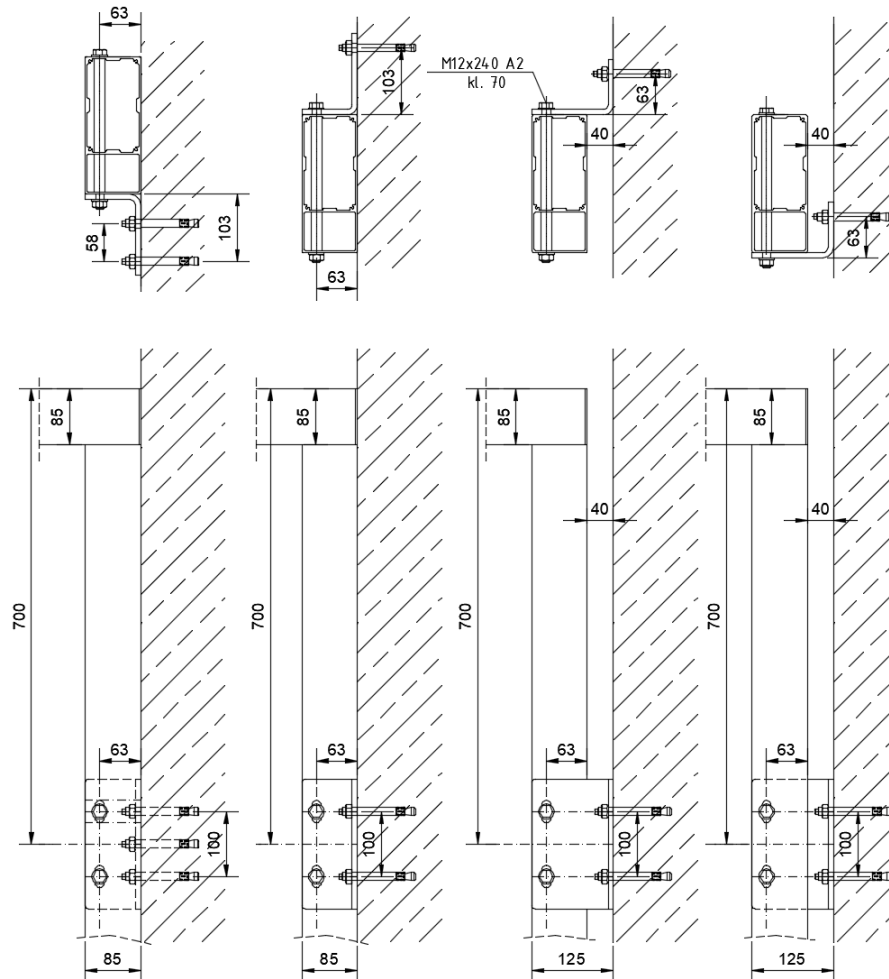

Fig. 62 Shortened wall version (side view and top view)
1. Determine the places for the anchors to fix the brackets on the wall. The pergola's wall beam has vertical holes spaced 100 mm apart for tightening the brackets. They are located approx. 700 mm from the ends of the pergola (fig. 62). Pay particular attention to maintaining the horizontal plane of the roof beam (i.e. the horizontal axis for all wall fixings).
2. Insert the anchors in the substrate according to the selected anchoring system. Install both wall brackets, applying the tightening torques for the anchors according to the manufacturer's recommendations. When setting the bracket as a support without distance, 3 anchors are required - two lower anchors with an axial spacing of 100 mm and the third one above in the middle of the distance (fig. 62 and 57).